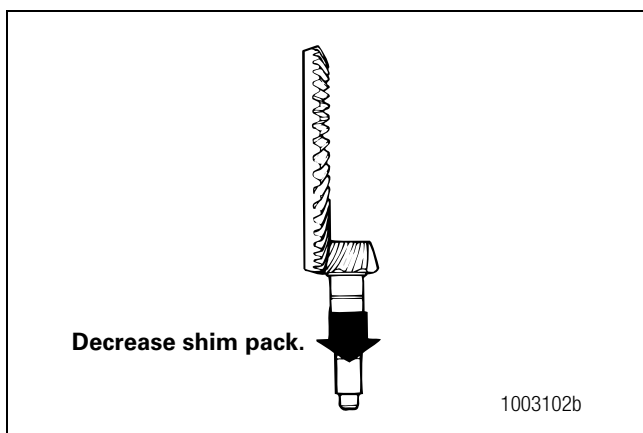

Figure 5.69
- **To correct a high contact pattern:** Decrease the thickness of the shim pack under the bearing cage. When decreasing the thickness of the shim pack, the drive pinion will move toward the ring gear. Figure 5.69.